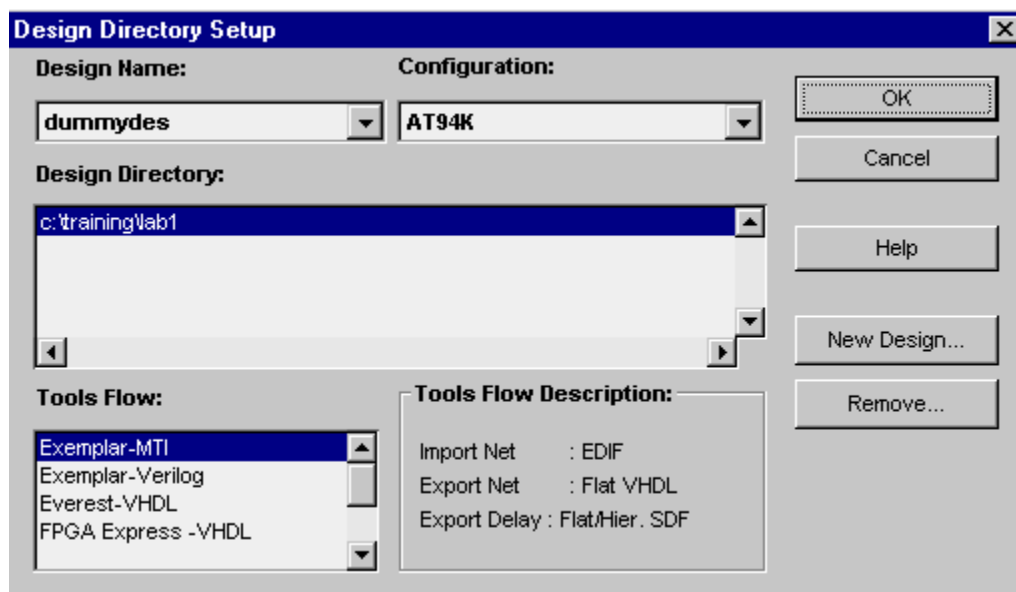

Figure 03. Design Directory Setup
5. Go to the **File** and choose **Design Setup**, see Figure 03.